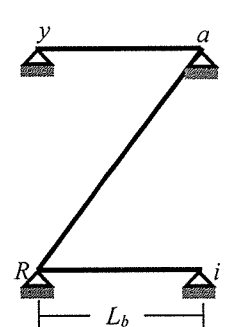

Fig. 4
- (ii) (a) Determine the recommended minimum length L_b of the beams in frame *Riya* (Fig. 4). Explain why the beam length(s) should not be smaller than L_b .